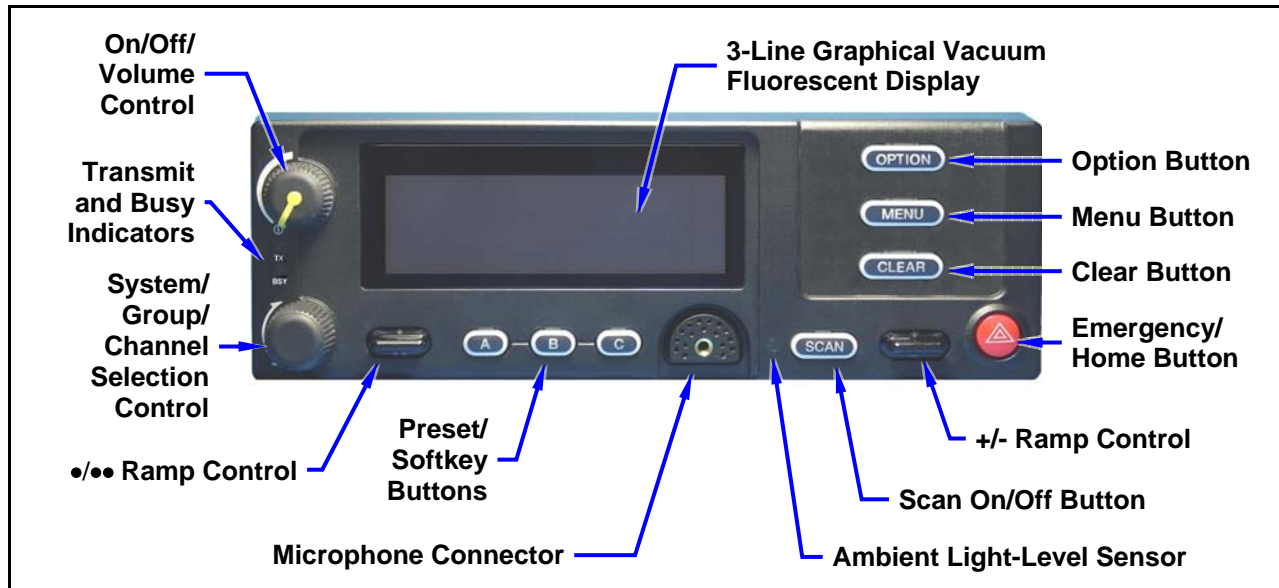
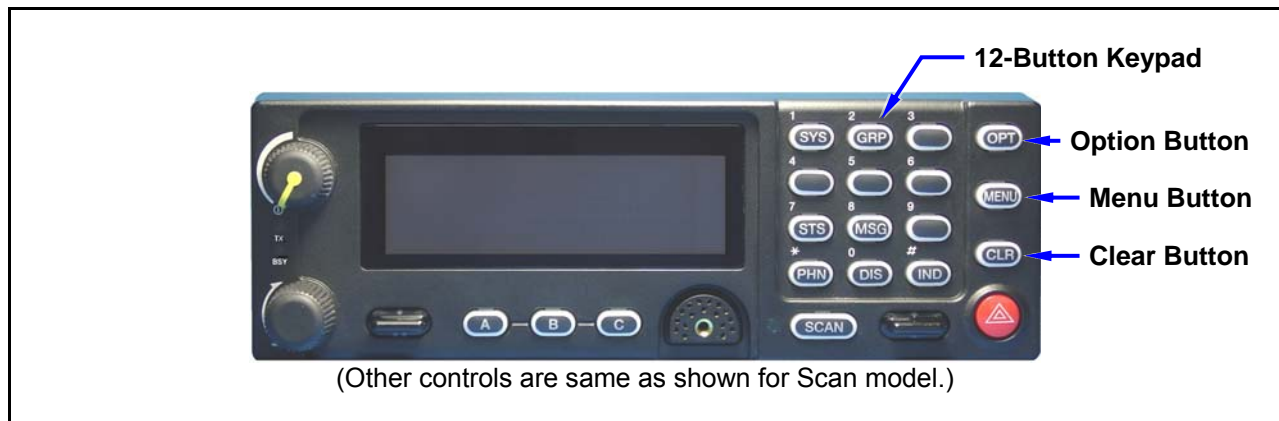

Figure 8-1: CH-721 Scan Model Control Head Front Panel
Figure 8-2: CH-721 System Model Control Head Front Panel
The radio must be connected to a control head to provide the operator-to-radio interface. Two different control heads are available — the CH-721 Scan model and the CH-721 System model. See Figure 8-1 and Figure 8-2 respectively. The CH-721 Scan model control head features three (3) large menu selection buttons. The System model control head has a 12-button keypad to allow advanced operations without the need of a DTMF-capable microphone.